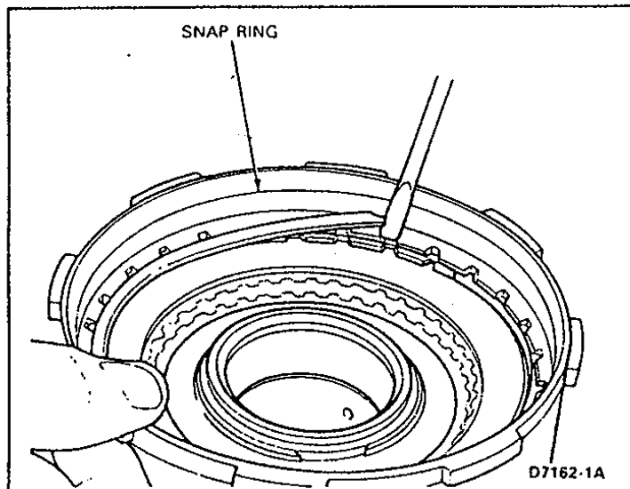

FIG. 39 Removing or Installing Reverse-High Clutch Pressure Plate Snap Ring
1. Separate the drive train as shown in Fig. 38. Remove the pressure plate snap ring as shown in Fig. 39.